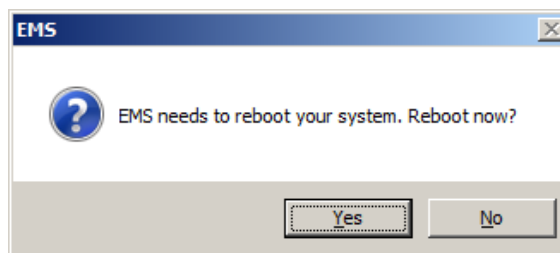

Figure 69
- The following window is displayed. See Figure 69:
- The following window is displayed. See Figure 69 below: